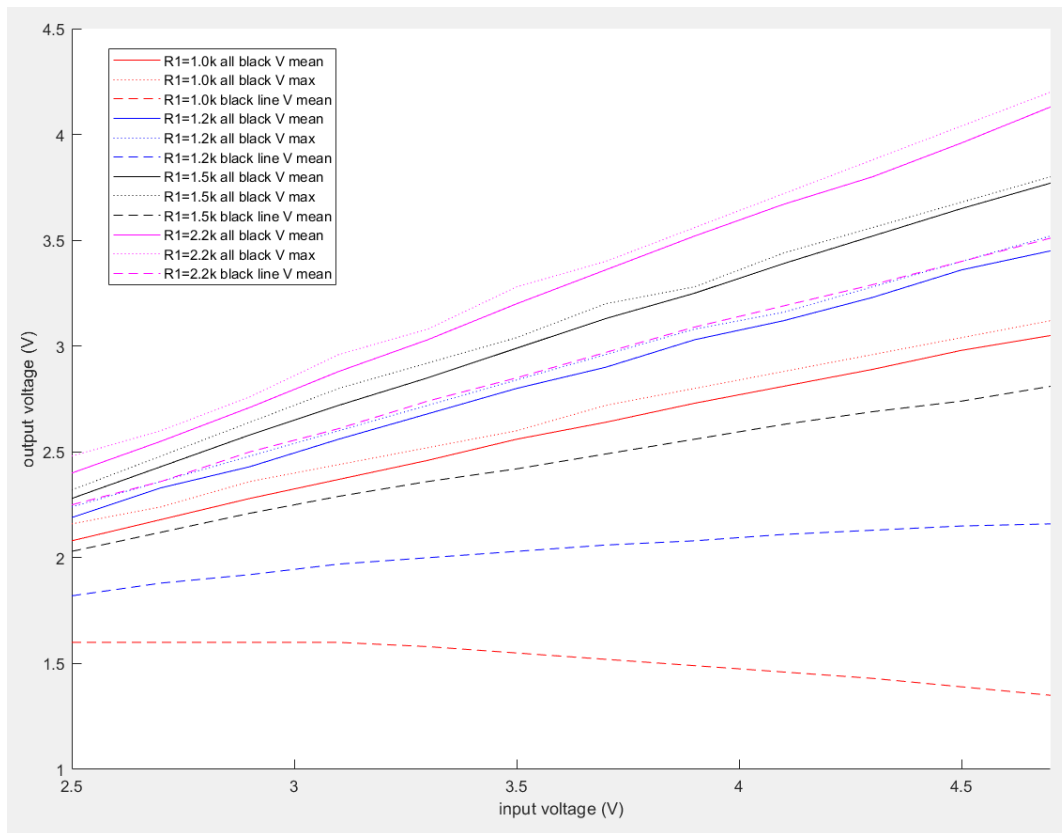
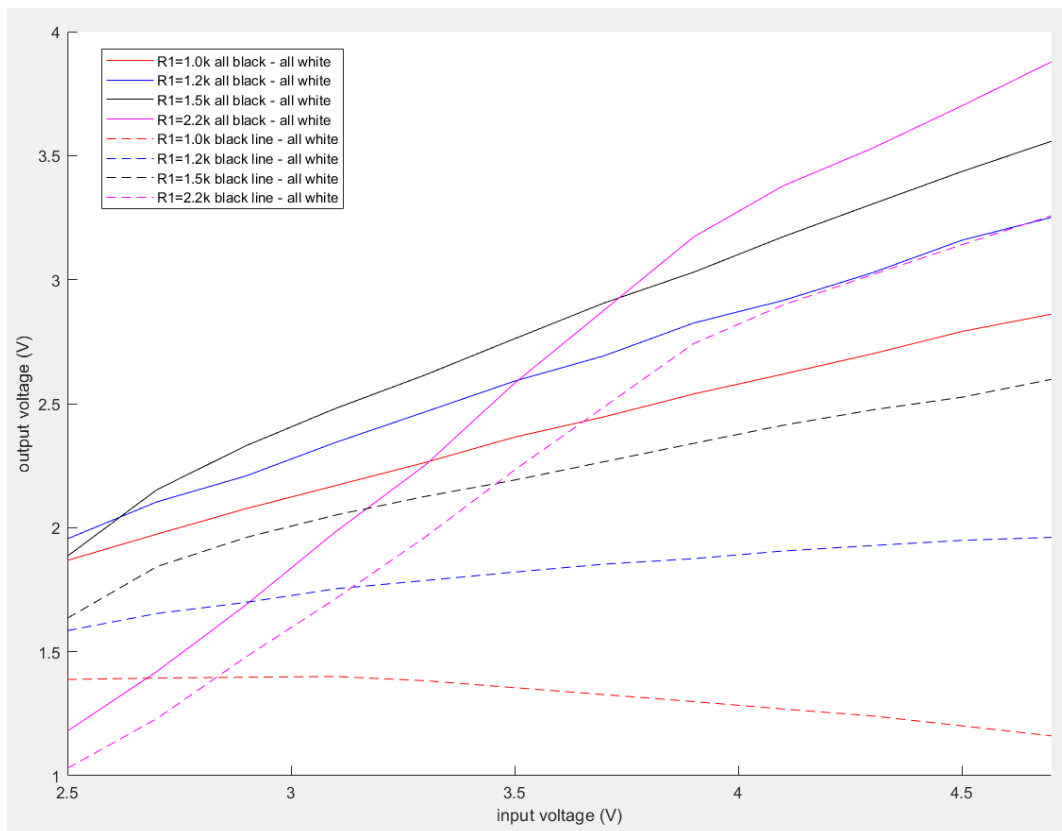

Figure 15 Dependence of output voltage on input voltage, R1 value, and type of surface (2mm above surface, multiple sensor units)
Figure 16 Difference of sensor reading over a feature with sensor reading over all white for different values of R1 (2mm above surface, multiple sensor units)
- If sensor unit is over all black, all white or over a thin black line. Black thin line is surrounded by white and neighboring sensor units light will be reflected to our sensor unit and will lower its value (see Figure 15)
- Input voltage. Higher voltage improves all black (see Figure 15) and all white (see Figure 13) readings but makes thin black line readings a bit worse if input voltage gets too large (see Figure 15). The biggest drawback of higher voltage increase is that it also increases power consumption and minimum voltage on the batteries.
For ADC we want maximum value of output voltage to be $< 3.3\text{ V}$ (this will allow us to have max ADC reading speed). To pick the best value we can use data from Figure 15 which has maximum values for each resistance and input voltage. Another important consideration is to pick max range between all white and feature readings to increase resolution (see Figure 16).